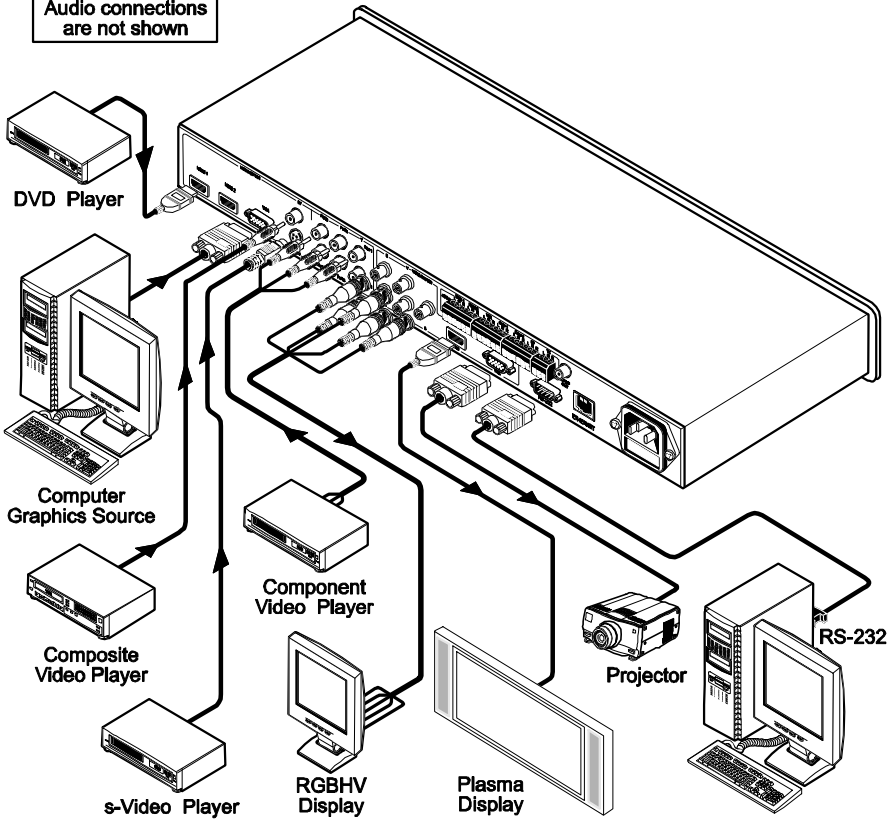

Figure 2: Connecting the VP-437 Presentation Switcher / Scaler
To connect¹ your **VP-437**, as illustrated in the example in Figure 2, do the following:
6. Connect the audio input signals to the AUDIO IN terminal block connectors, as required (not shown in Figure 2).
10. Connect the power cord³ (not shown in Figure 2).